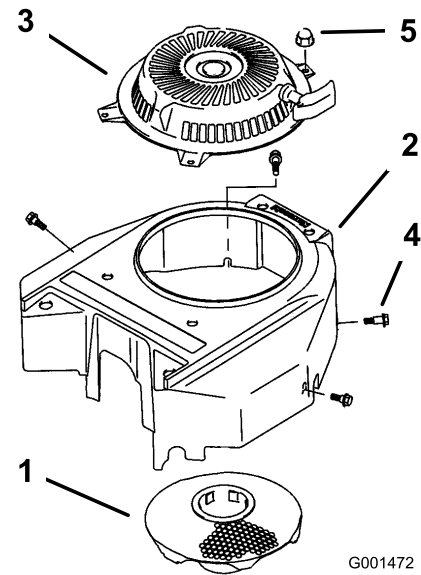

Figure 34
3. Remove the air-intake screen, recoil starter, and fan housing (Figure 34).
5. Install the air-intake screen, recoil starter, and fan housing (Figure 34).